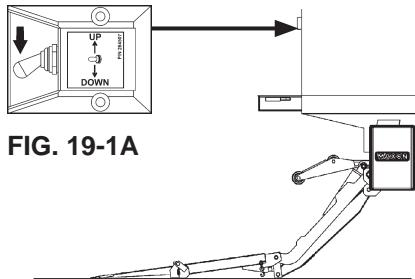

FIG. 19-1A
9. Before moving the vehicle, prepare the Liftgate as follows. Make sure load is removed from platform. If the platform is at bed level, push the toggle switch to the **DOWN** position as shown in **FIG. 19-1A**. Release toggle switch when platform touches the ground (**FIG. 19-1**).